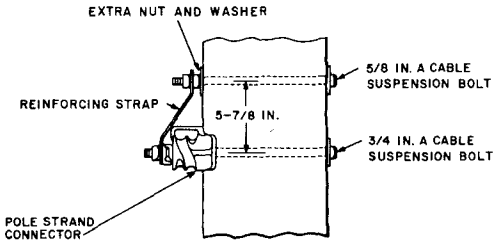

Fig. 10—Nut and Washer Used to Space Reinforcing Strap
6.11 When a pole strand connector is used to space the clamp, use a nut and washer to space the reinforcing strap or straps from the pole, as illustrated in Fig. 10.